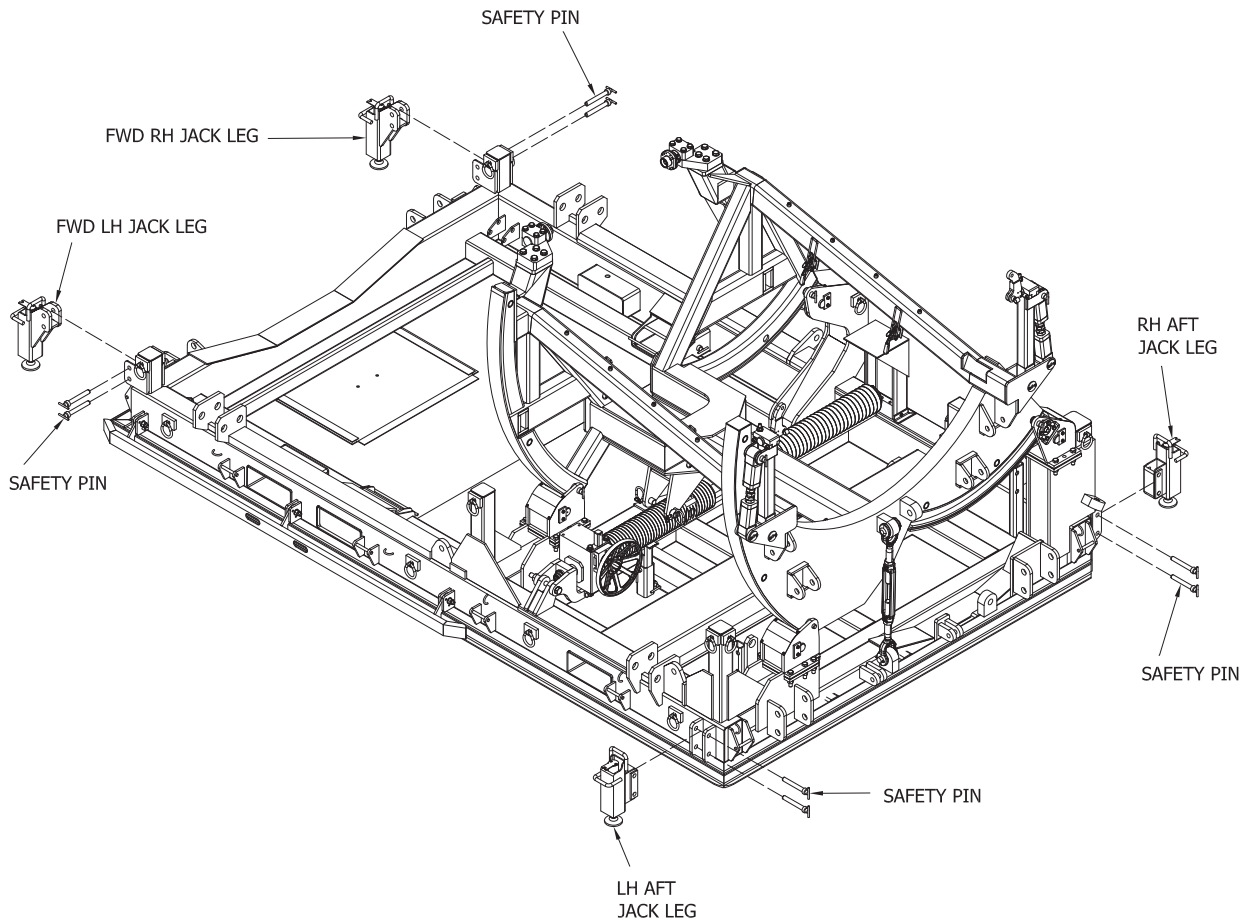

Figure 5.7-3 Hydraulic Jack Leg Installation
To deploy a jack leg, remove the two (2) AM-91000-88T-H900 safety pins storage position and place it into the mounting brackets. Secure the leg with the same safety pins (Figure 5.7-3). Repeat this procedure for the other three corners.